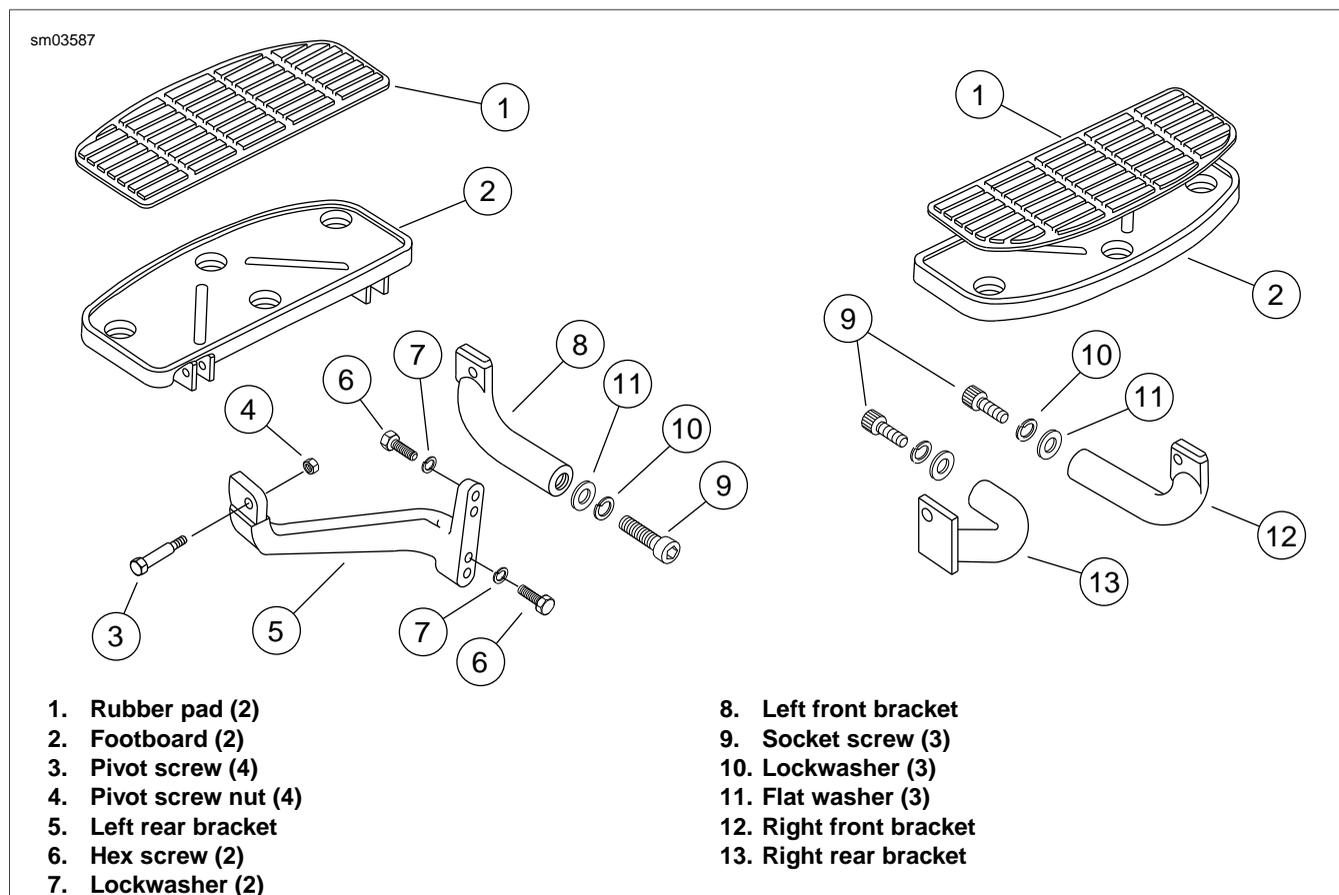
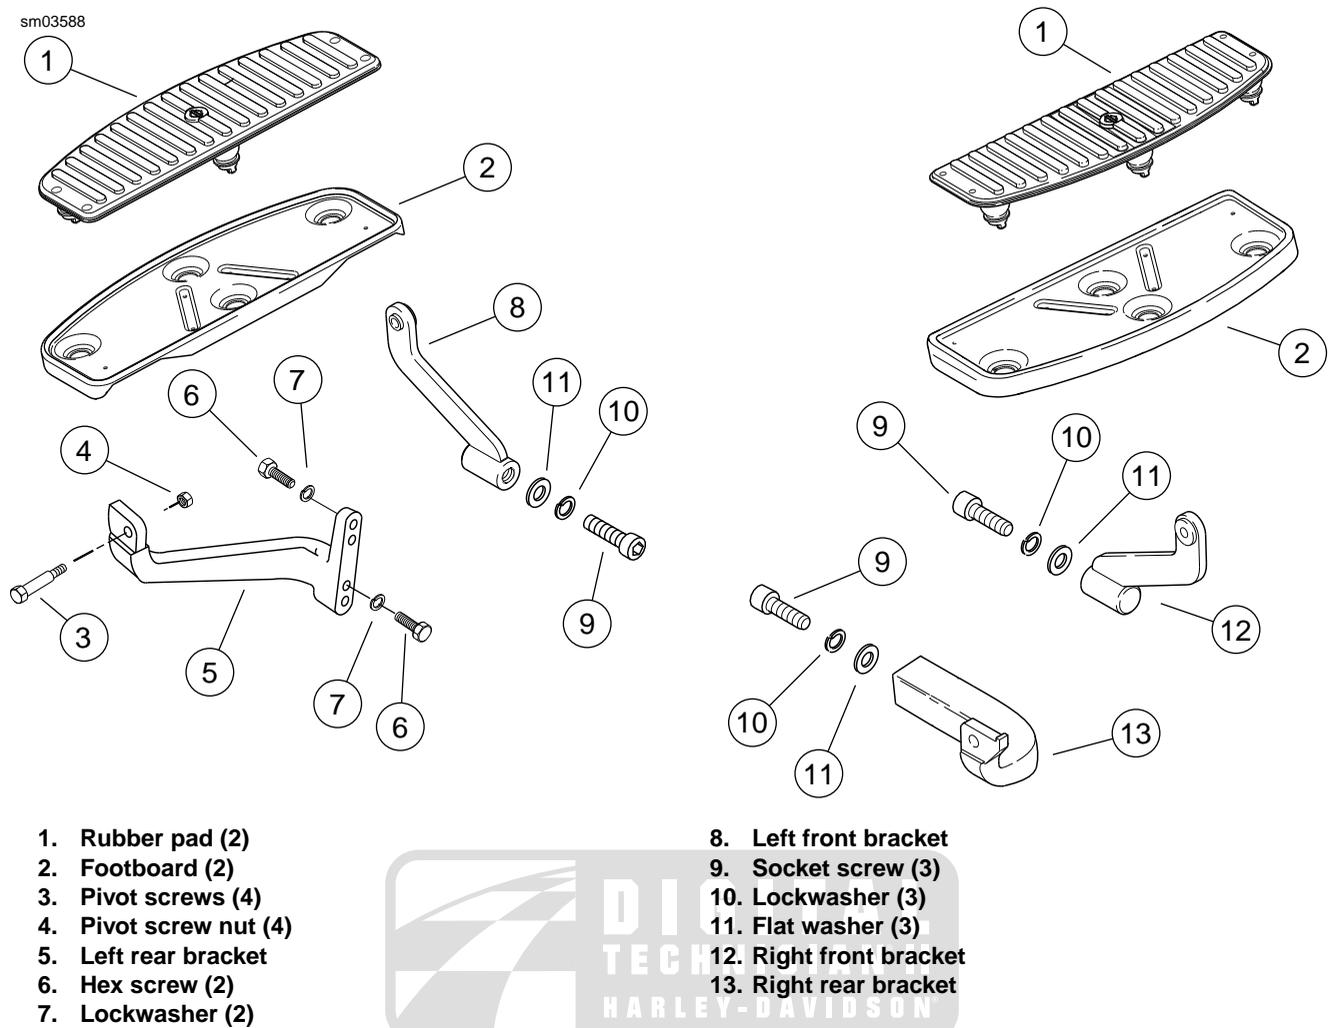

Figure 2-174. Rider Footboards (All Models Except FLHX)
Figure 2-175. Rider Footboards (FLHX)
1. Remove right side footboard and bracket assembly as follows: Remove two allen head socket screws (with lock washers and flat washers) to release footboard brackets from frame weldment. See Figure 2-174 or Figure 2-175. For best results, approach from left side of motorcycle using a 3/8 inch ball allen with extension.
- b. Remove socket screw (with lockwasher and flat washer) to release footboard forward bracket from frame weldment. See Figure 2-174 or Figure 2-175. For best results, approach from opposite side of motorcycle using a 3/8 inch ball allen with extension.
- a. Insert two allen head socket screws (with lockwashers and flat washers) through frame weldment into footboard brackets. See Figure 2-174 or Figure 2-175. For best results, approach from left side of motorcycle using a 3/8 inch ball allen with extension.
- a. Insert allen head socket screw (with lockwasher and flat washer) through frame weldment into footboard forward bracket. See Figure 2-174 or Figure 2-175. For best results, approach from opposite side of motorcycle using a 3/8 inch ball allen with extension.